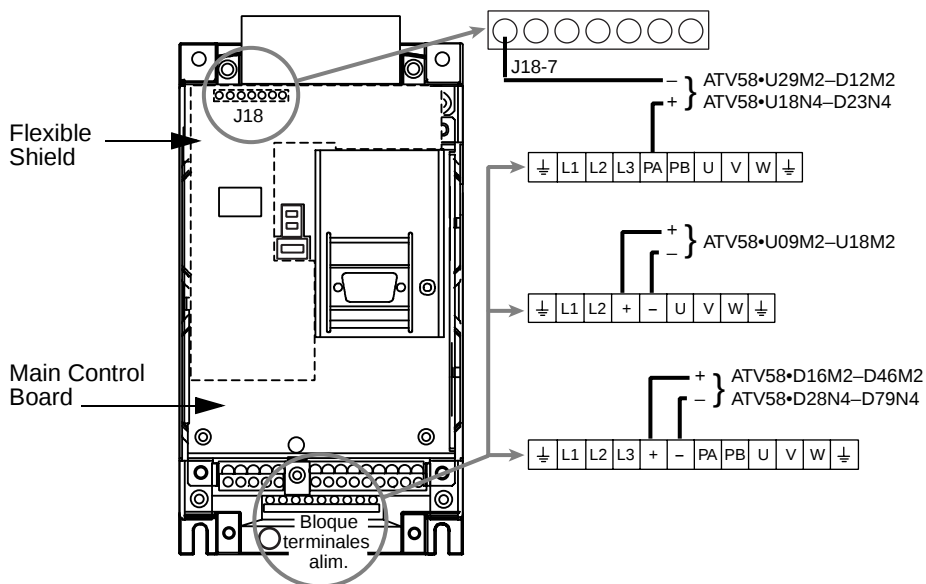

Figure 24: DC Bus Measurement Terminals
The DC bus voltage level is determined by monitoring the (+) and (-) measurement points. Their location varies by drive controller model number as listed in Table 24 and shown in Figure 24. The drive controller model number is listed on its nameplate.
3. Read the model number of the drive controller from the nameplate and identify the corresponding (+) and (-) measurement points from Table 24 and Figure 24.